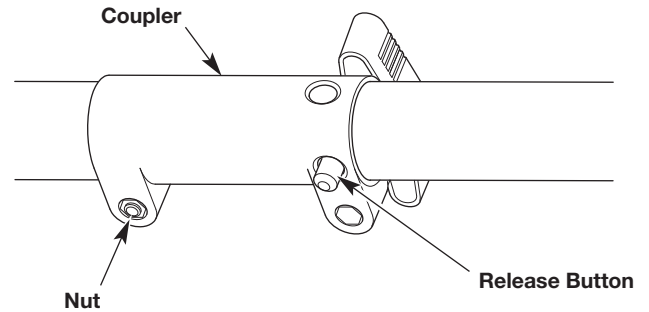

Fig. 4
**NOTE:** Do not tighten the nut (Fig. 4).
2. Press and hold the release button (Fig. 4).